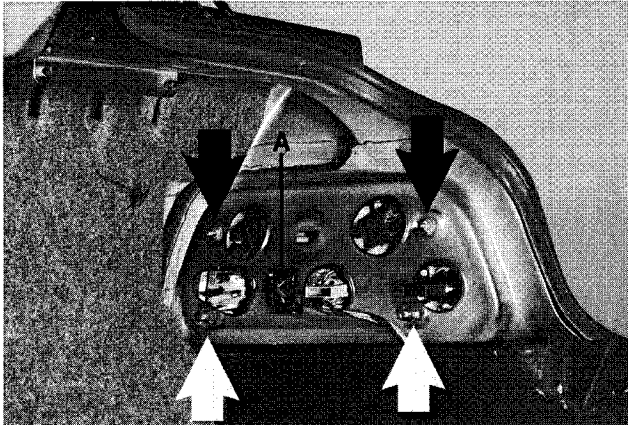

Fig. 13. Taillight mounting nuts (arrows) and harness connector (A).
2. Depress locking tabs on electrical harness connector and disconnect from rear of taillight lens assembly. Remove four taillight assembly retaining nuts. See Fig. 13.